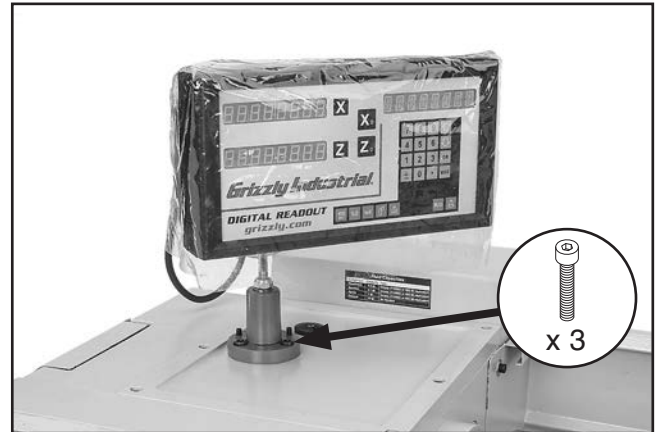

Figure 16. DRO unit mounted to headstock.
2. Secure DRO assembly to threaded mounting holes in headstock cover, using (3) pre-installed M8-1.25 x 20 cap screws (see **Figure 16**).